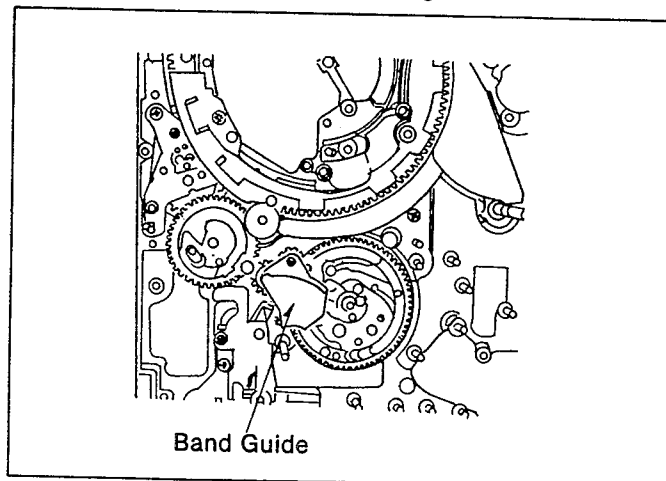

Fig. M12
- (1). Install the Band Guide and then insert the Cut Washer as shown in Fig.M12.